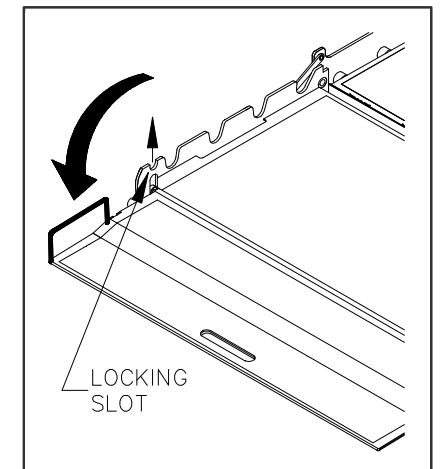

FIGURE 3-18: LOWER OUTER ROLLSTOP
- 10) Refer to **Figure 3-18**. Grasp rollstop handle and lift outer rollstop out of locking slots (about an inch). Lower to ground.